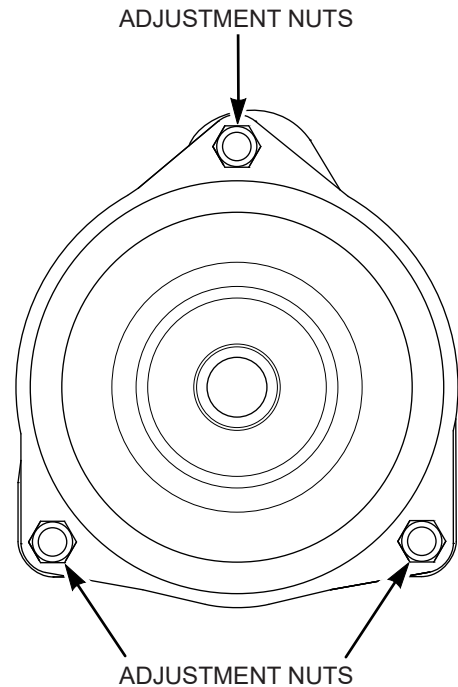

Figure 6-13. Clutch Air Gap Adjustment
3. Tighten or loosen the adjusting bolt as needed to achieve the 0.015 inch air gap. See Figure 6-13. Perform this operation at all three inspection windows.